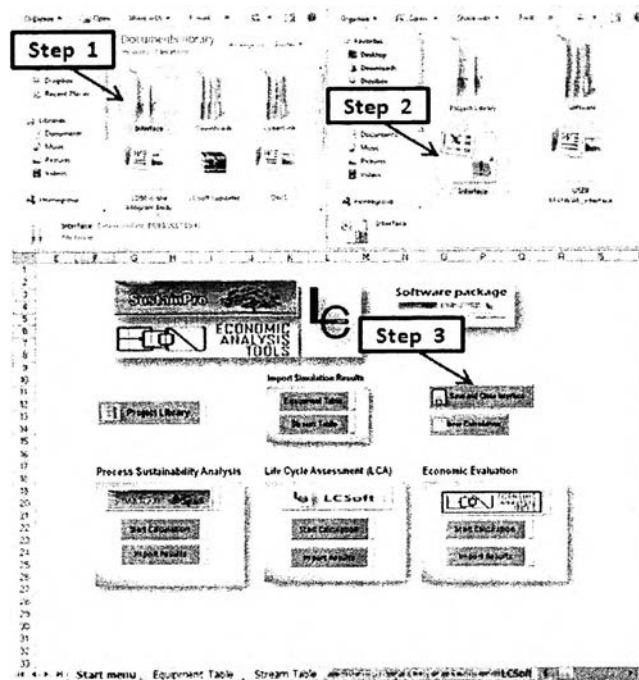

Figure B.3 Steps to open and close Interface of SustainPro, LCSoft, and ECON
Step 1: Open “Interface” folder (Figure B.3).